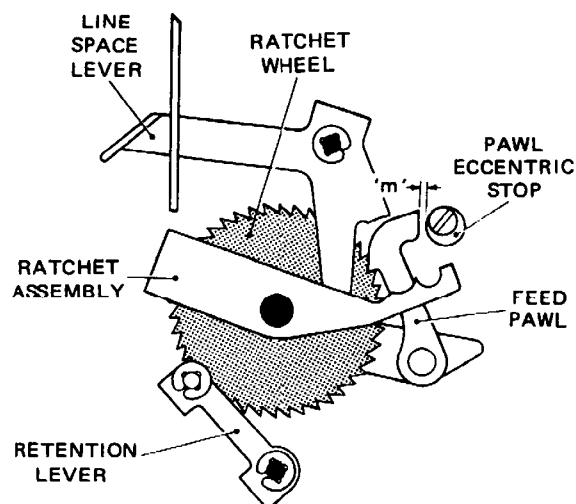

Fig. 4.12 RATCHET FEED MECHANISM
- 14.1 Set the feed mechanism, Fig. 4.12, so that the centre of the feed pawl pivot and the centre of the retention lever pivot are about 0.75 inch apart, ensure that the feed pawl and the retention lever roller are fully engaged with the ratchet wheel, and check that the gap between the feed pawl and the pawl eccentric stop (dimension 'm') is 0.002–0.012 inch.